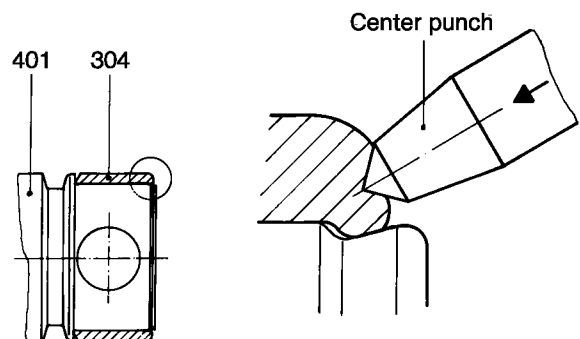

Figure 11: Securing the joint sleeve.
- Push joint clamps (306), joint collars (308) and joint sleeve (304) onto the shank of the joint shaft (307).
- Push joint shaft (307) into the head of the rotor (401).
- Push joint bolt (301) into the joint bush (302), and completely drive in bushes for the joint bolt (303).
- Polish joint sleeve (304) at the outside diameter, if necessary, with emery, and mount on the head of the rotor (401).
- Following mounting of the joint sleeve (304), secure same against axial displacement on the head of the rotor (401).
ATTENTION For these purposes, drive face of the joint sleeve (304) into the groove at the head of the rotor (401) by means of a center punch blow (please refer to Figure 11 below).